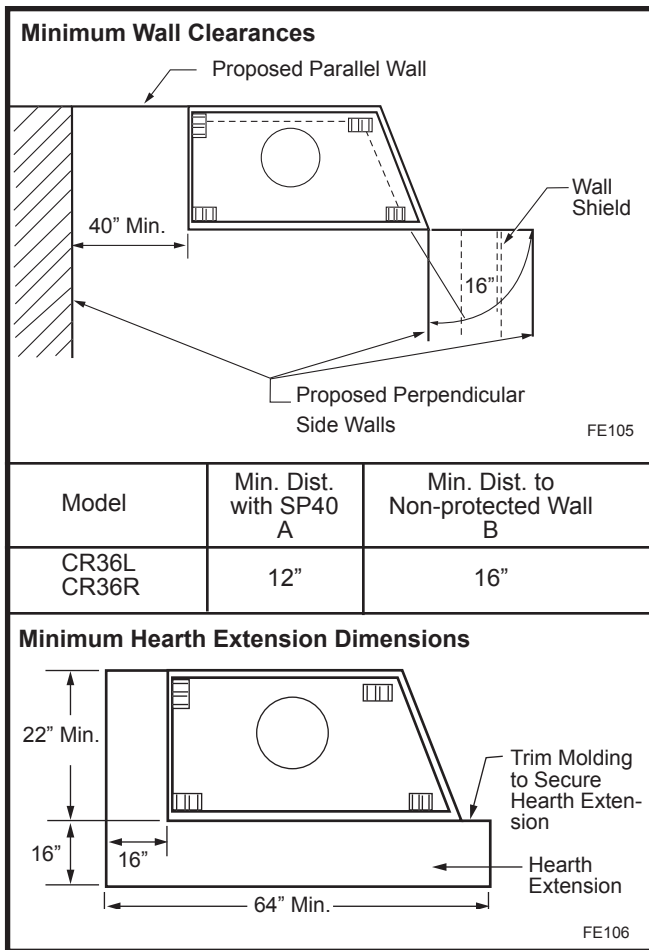

Fig. 20 Protection of adjacent combustible side walls and hearth extension dimensions.
When finishing the fireplace, a combustible facing material (i.e. drywall or wood paneling) may be installed at the fireplace surround top as shown in Figure 20. This material may rest on the ledge brackets (brackets on the front and side edges of the fireplace), but must NOT be notched to fit around them. (Fig. 20)
A hearth extension is required to protect a combustible floor in front of the fireplace. Refer to Figure 20 for minimum dimensions and mounting detail.
The hearth extension described in Figure 20 must be a durable non-combustible material with a minimum (total) Rt value of 1.09; refer to Figure 21 for examples. The overall height (above a combustible floor), depth and width must be as indicated, with the extension centered to the fireplace opening.
**WARNING: HEARTH EXTENSION MUST BE INSTALLED IN ACCORDANCE WITH FIGURES 20 AND 21.**